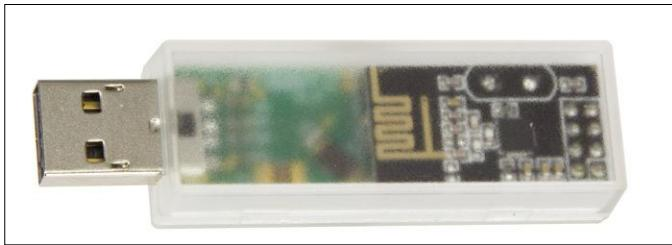

Figure 7. ...so that it all fits in the USB-stick enclosure.
**Figure 7** shows that it all fits pretty neat! ▶